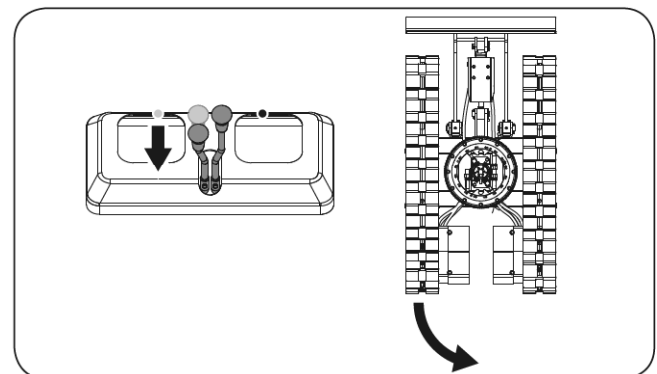

Figure 55
2. Pull the left drive lever backward, back of the excavator will turn to the right. (See **Figure 55**)